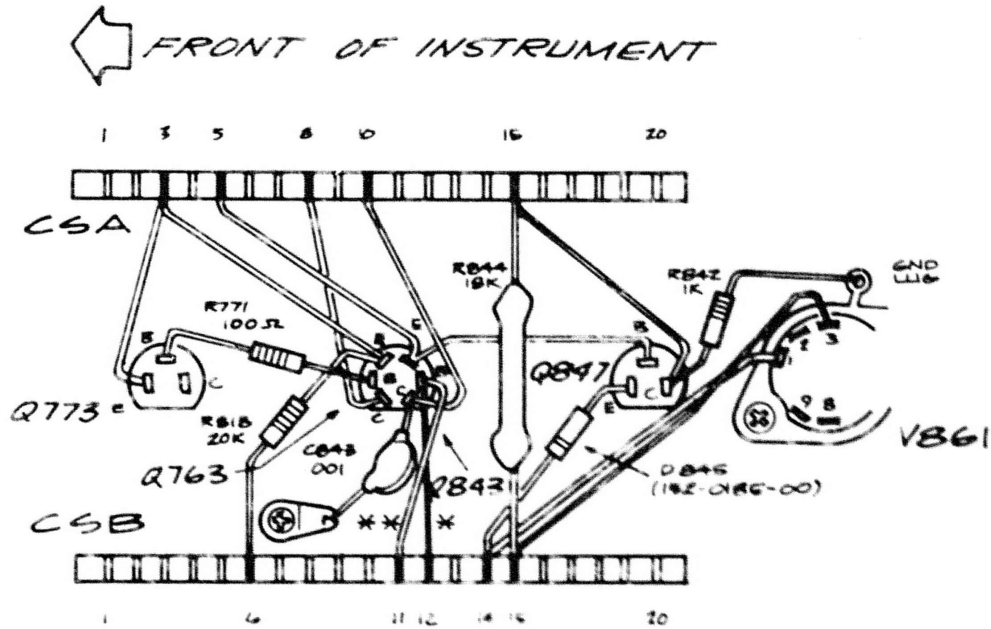

FIG. 11
- () 6. Remove the Q843 silk-screening from both sides of the chassis using lacquer thinner or similar solvent. When the modification is completed Q763 and Q843 will share the six-pin Q763 socket and Q847 will occupy the old Q843 socket. The chassis may be marked accordingly if desired (see Figs. 11 and 12).
- () 7. Solder the following wires and components as indicated in Fig. 11.